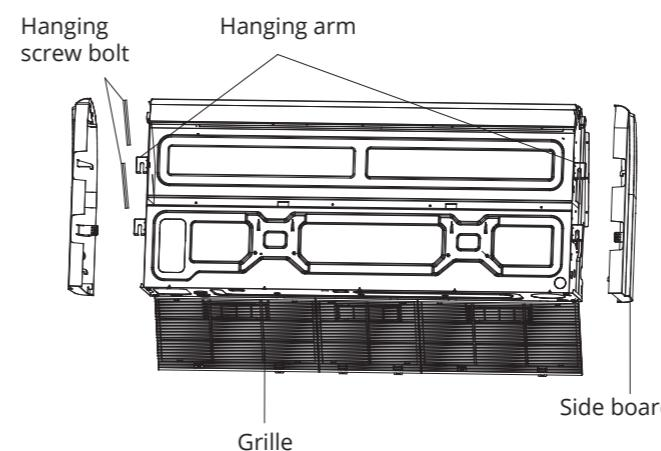

Fig. 4.10
9. Remove the side board and the grille. (See Fig. 4.10).